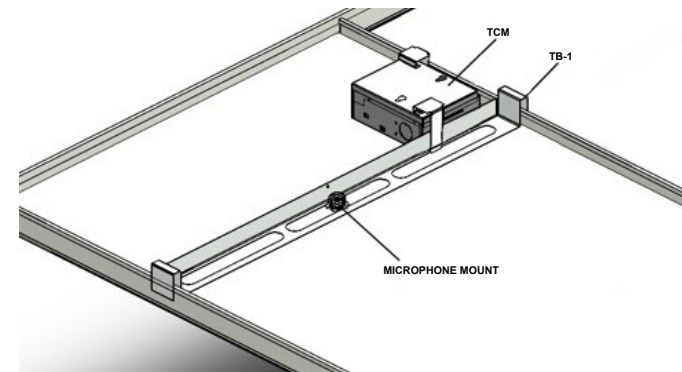

Figure 16. Alternative TB-1/TCM Installation Option
2. Install the clips on the notched fittings of the TCM plenum top cover. See Figure 16 in the previous section.